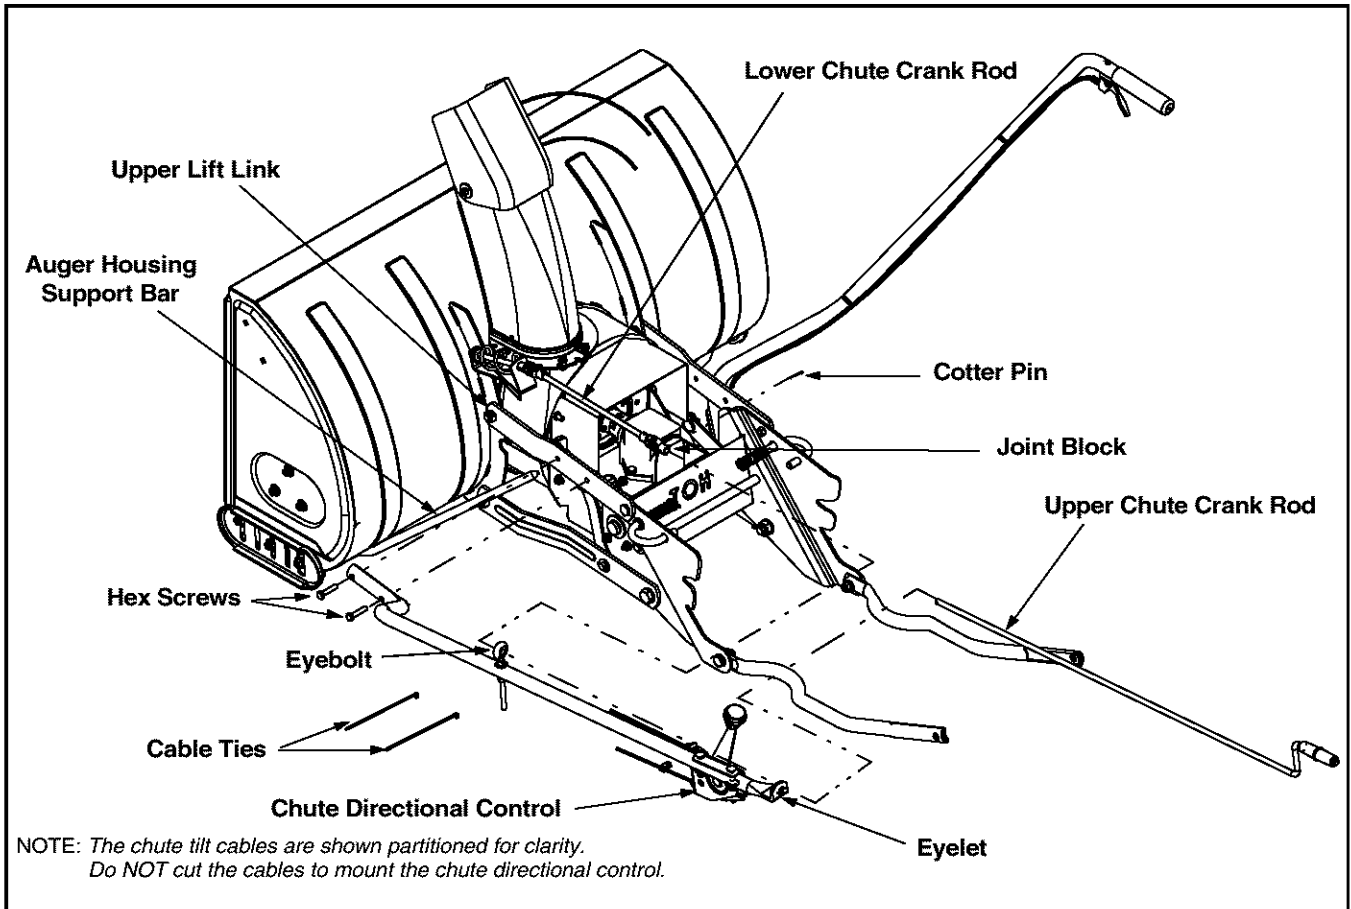

Figure 12
1. Attach the chute directional control assembly to the upper lift link on the left side of the auger housing assembly with two hex screws as illustrated in Figure 12. Secure with two flange nuts.
2. Slide the upper chute crank rod through the eyelet in the top of the chute directional control, the eyebolt found midway down and into the joint block found on the lower chute crank rod. See Figure 12.
3. Secure the upper chute crank rod to the joint block on the lower chute crank rod with the cotter pin provided. See Figure 12.
5. Grasp the auger housing support bar, refer to Figure 12, found on the left rear portion of the auger housing. Have an assistant grasp the support bar found on the right rear portion of the auger housing.